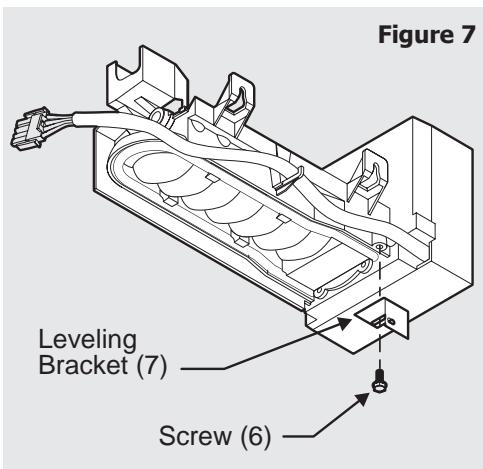

Figure 7
11. Install adjustable leveling bracket (7) on bottom of Ice Maker (1) with screw (6) (Figure 7). DO NOT tighten bracket. It will be tightened later in this procedure.